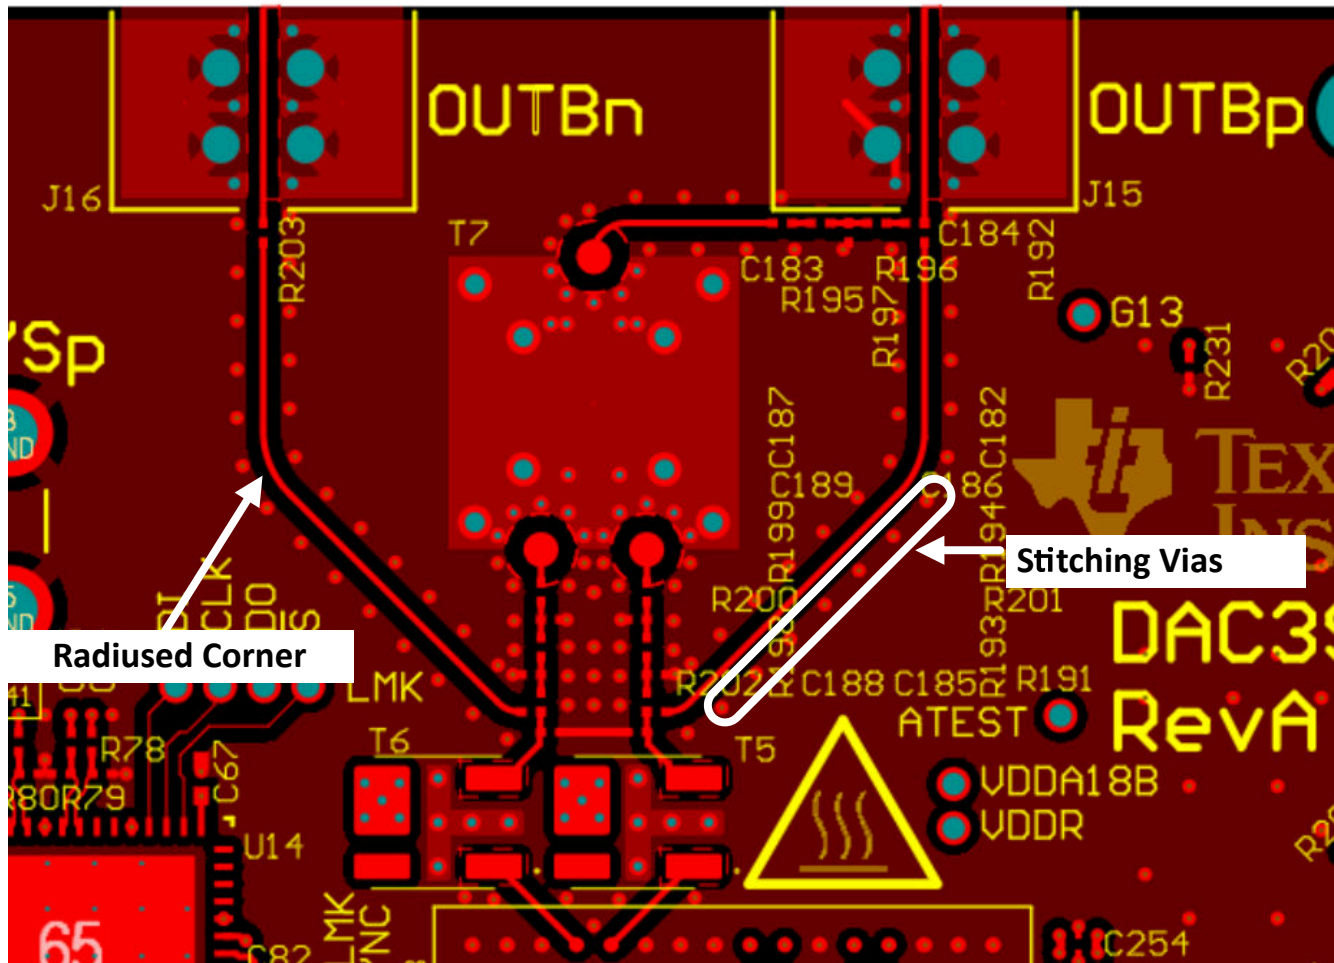

Figure 8-24. Radius Corner and Stitch Vias next to High-Speed Signal Trace
4. Use smoothly radiused corners and avoid 45- or 90-degree bends to reduce impedance mismatches on all high-speed inputs/outputs for both analog and digital signal traces. See Figure 8-24 as an example.
7. Provide symmetrically located ground tie stitching vias adjacent to any high-speed signal at an appropriate spacing as determined by the maximum frequency the trace transports ($\lambda/4$). See Figure 8-24 as an example.